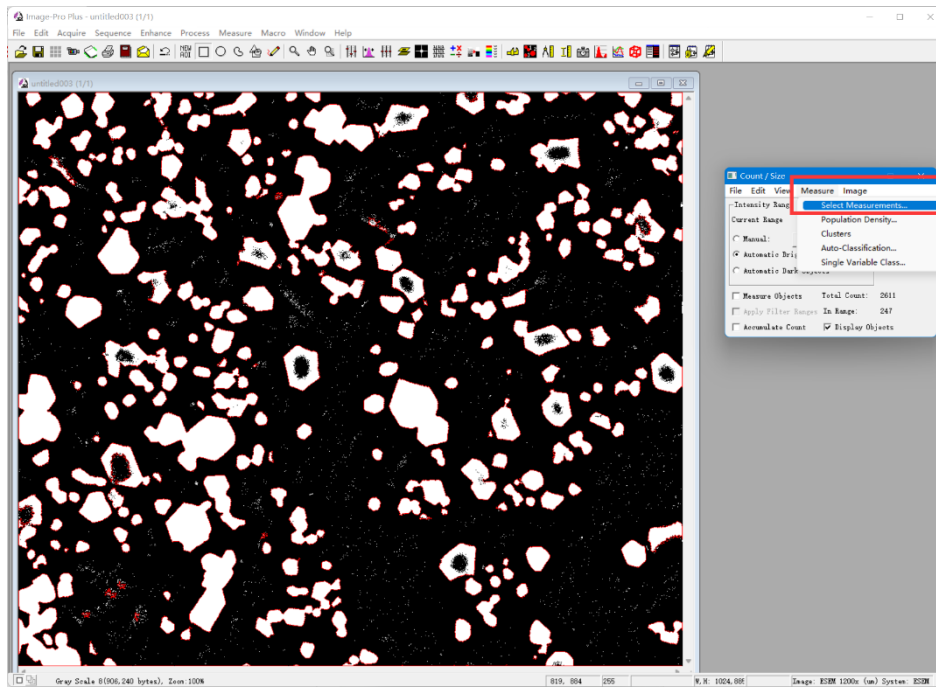
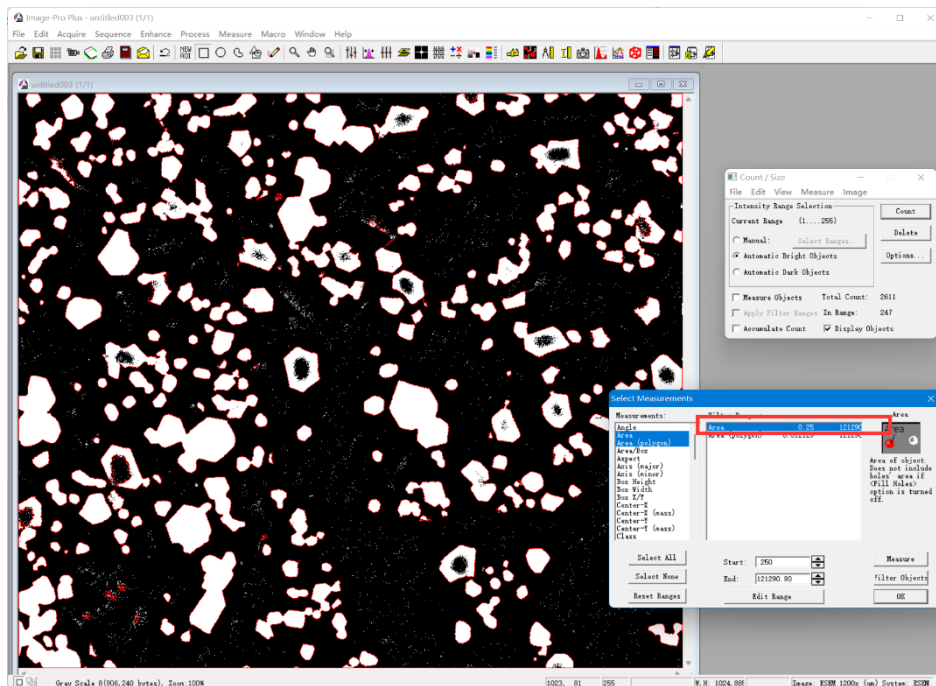

Figure S9. Click on the “Select Measurements” option.
Figure S10. Setup the measurement options.
8. Click on the “Select Measurements” option shown in Figure S9, to select the value that you want to measure, as shown in Figure S10. During measurement process, you can set a threshold below which measurements will not be included in the final statistics. Then, you can manually delete the measurement results that do not belong to the  $\text{Mg}_2\text{Si}$  phase by comparing with the original SEM pictures. Finally,